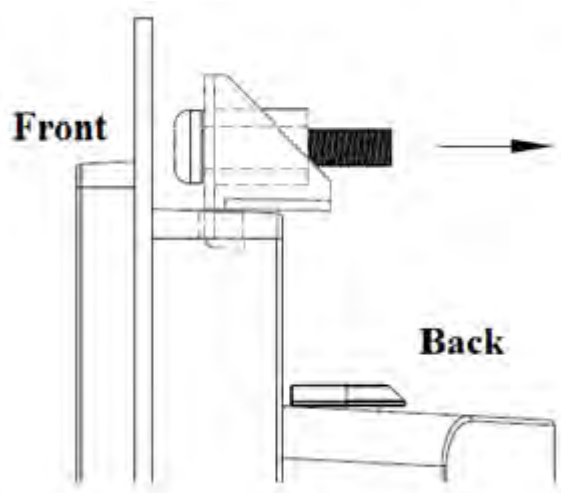

Figure 2.25 Hook brackets location
3. Insert the hook brackets into the holes following the direction of the arrows shown in Figure 2.25 and hang the panel PC.